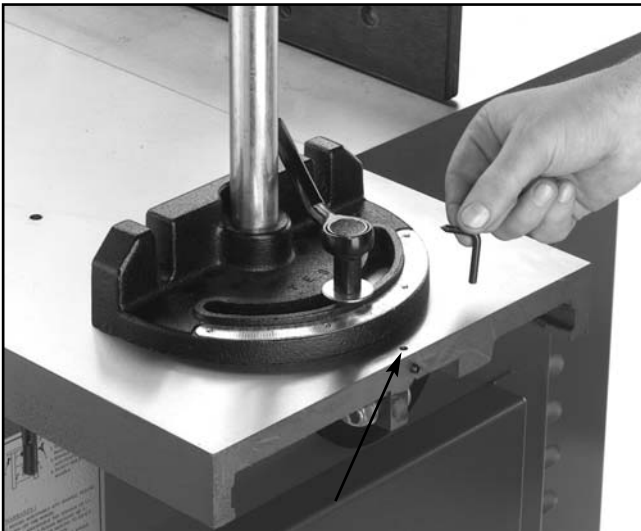

Figure 23. Installing the pointer.
5. Insert the the miter gauge pointer shown in **Figure 23**, but do not tighten the nearby setscrew at this time.